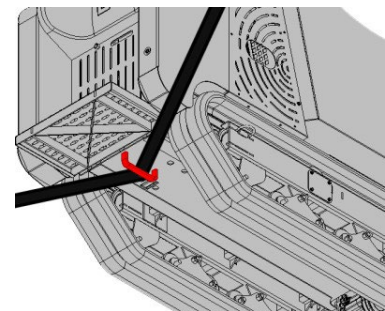

Fig 11
- Secure the machine to the vehicle or trailer tightly using fastening devices and the 6 tie down points. (*Fig, 9, 10 and 11*) Figure 11 shows tie down location under the rear of machine. Ensure that the machine will not roll or shift on its own.